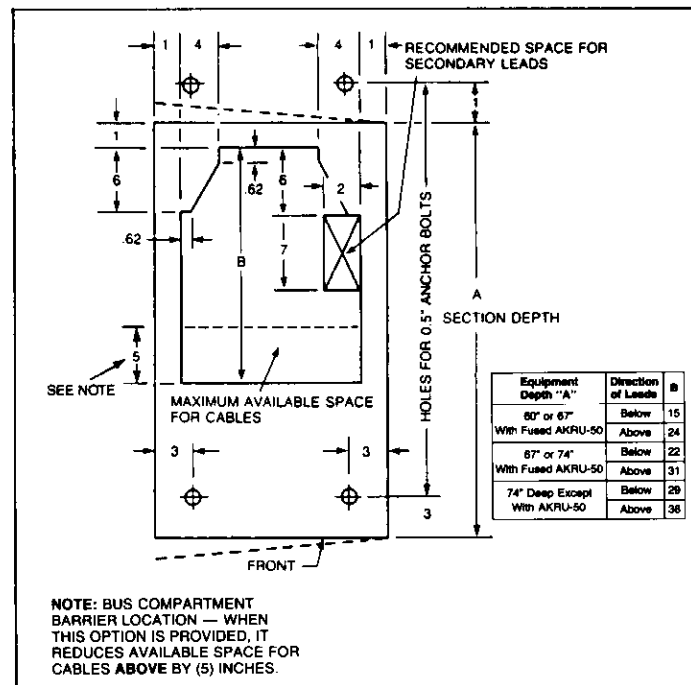

Fig. 4-21. Floor plan and cable entry space—indoor AKD-8
For external control wiring, refer to Fig. 4-21 for switchgear cable area dimensions, and connect the control wires to the switchgear section as follows:
3. If the control conduits enter from above, drill the top cover within the available space indicated. See Fig. 4-21. Control wires should be routed to the wiring trough and connected to the terminal blocks as described previously.